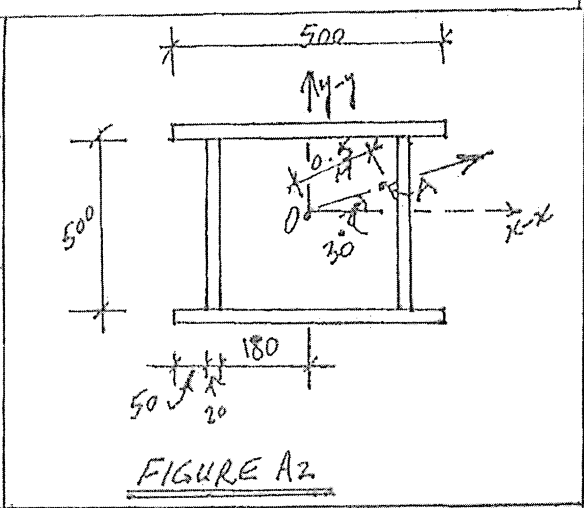

FIGURE A2
- A2. Figure A2 shows a built-up steel cross-section. It is fabricated from 20-mm G40.21-M350W steel plates. Determine the section moments of resistance about the two centroidal axes x-x and y-y.
- A3. The cross-section in Figure A2 is used as a column in a one-storey industrial building. The base of the column is fixed to the foundation and its top can be assumed to be translation free. The column is 6 m high and subjected to a vertical load P_f , applied at A, a distance of 0.5 m from the centre O, and along axis OA. Calculate the maximum factored load P_f the column can carry.